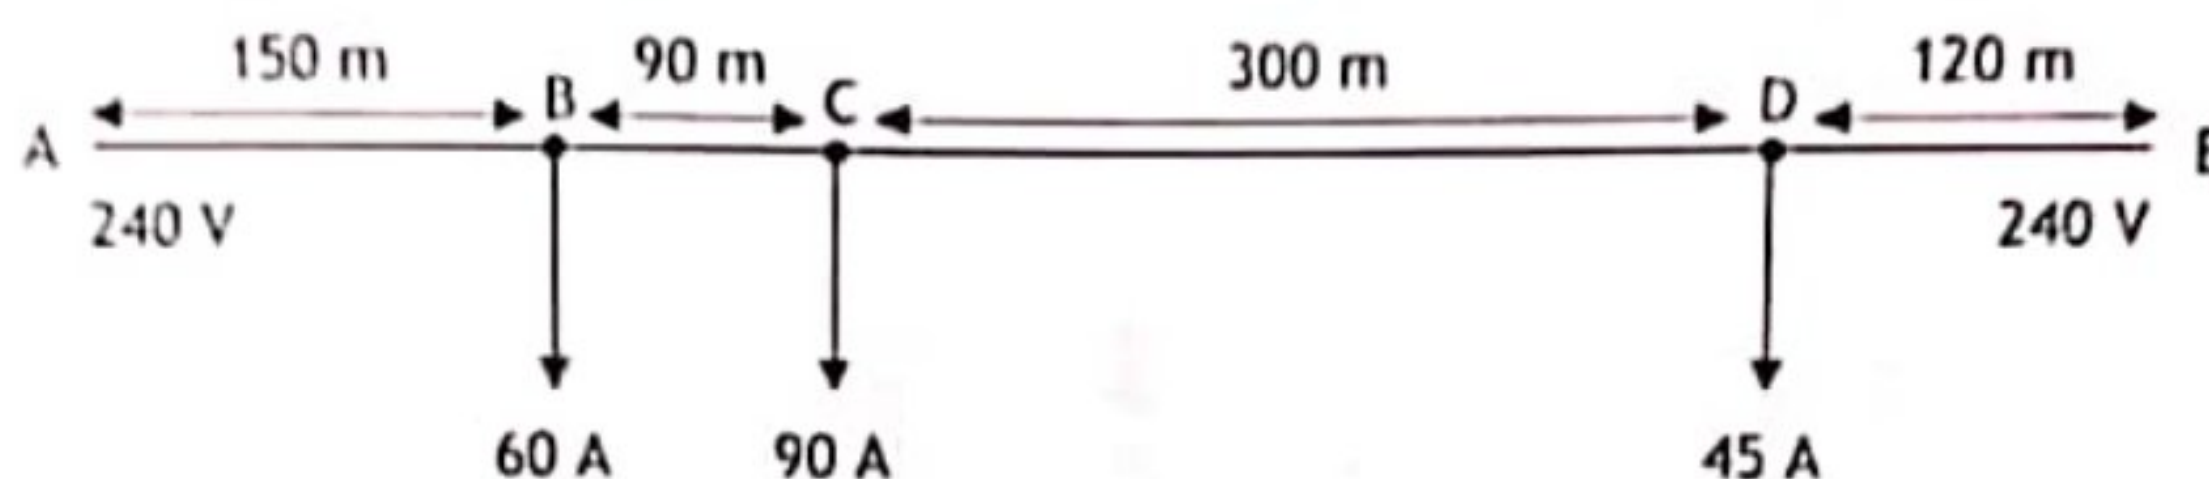

Fig Q1
1. Fig Q1 shows a 240 V ring main. The cable resistance (go + return) is $2 \times 10^{-3} \Omega/\text{m}$.